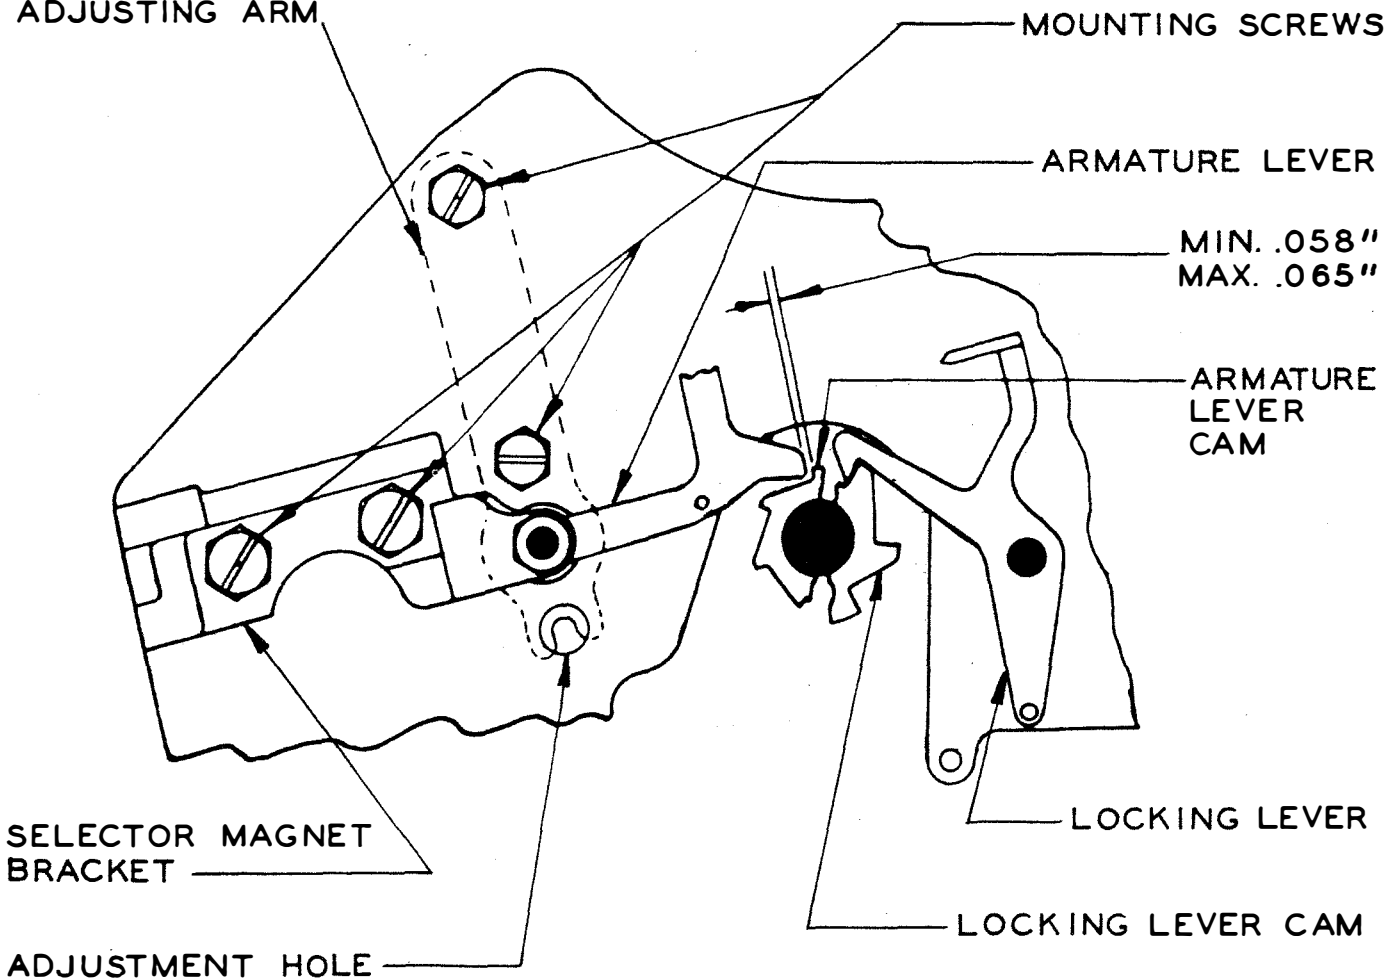

Figure 10
2.13 **Armature Lever:** The end of the armature lever (holding magnet) should clear the face of a cam tooth by minimum 0.058 inch, maximum 0.065 inch, as indicated in Figure 10, when the locking lever has just dropped off a long high part of its cam, the cam is held back against the locking lever, and the selector arm